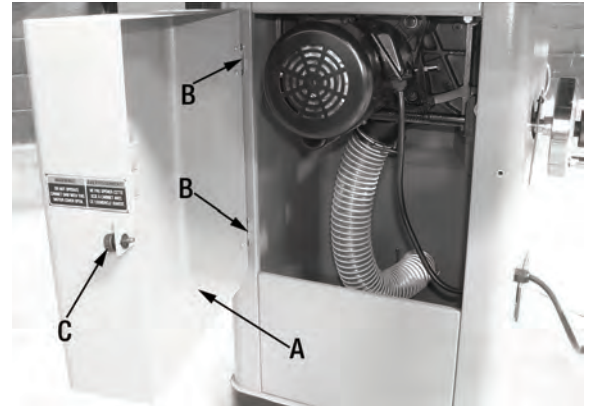

FIGURE 4
To prevent air born saw dust, the motor access door (A) Fig.4 should be installed to the cabinet. Slide the motor access door hinges (B) into the hinge pins in the cabinet. Swing and close the access door and lock it into place using the supplied lock knob (C).